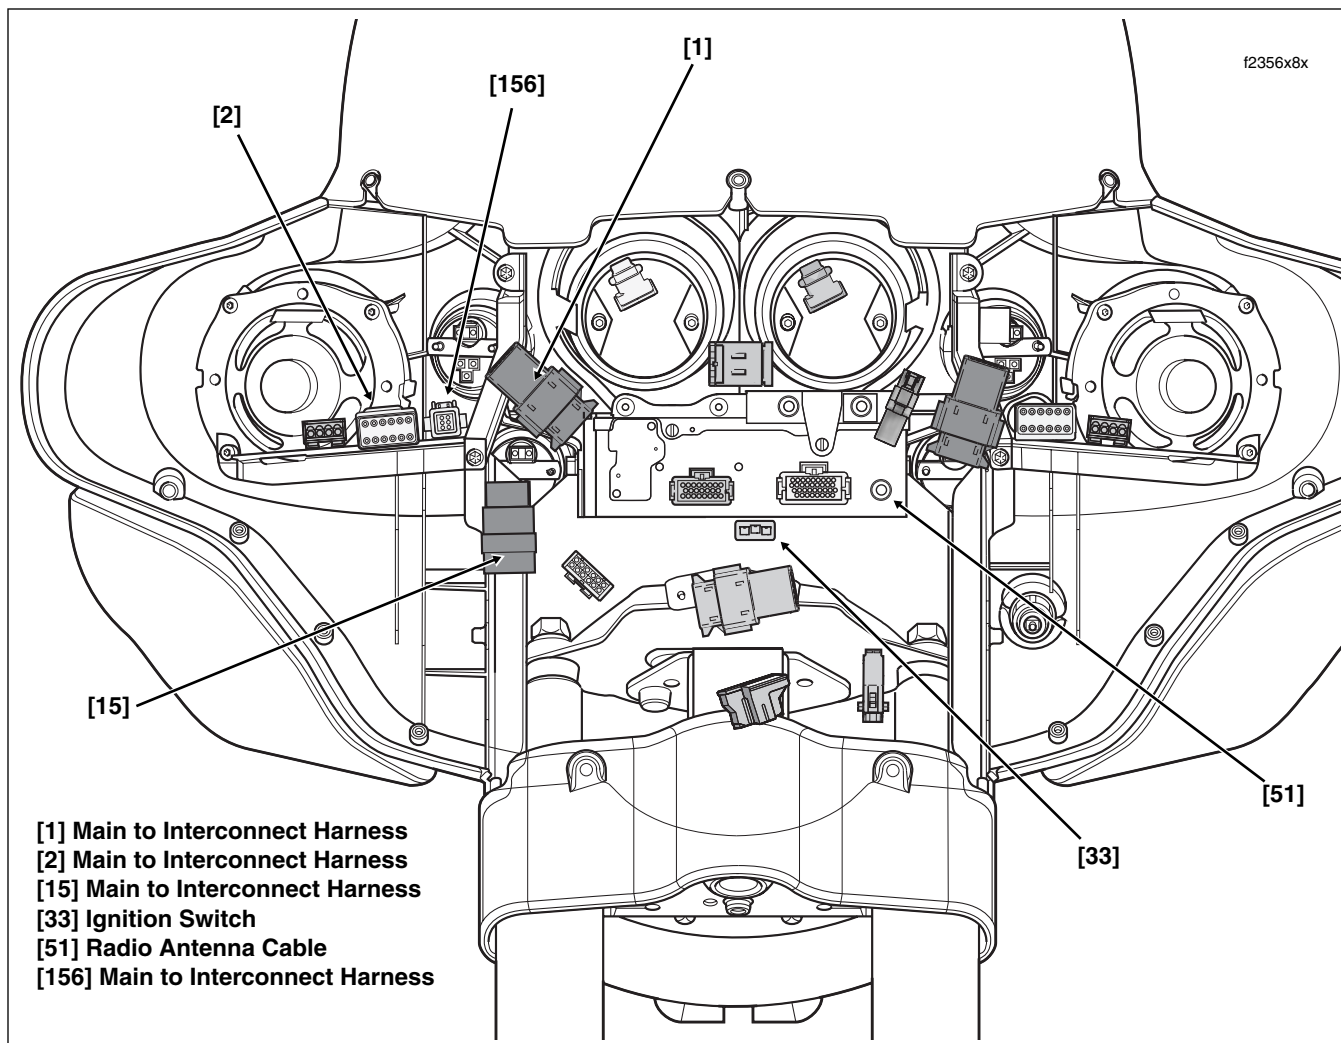

Figure 8-158. Inner Fairing - Main Harness Connectors (FLHX, FLHTC/U)
3. See Figure 8-158. Disconnect main harness from interconnect harness as follows:
4. See Figure 8-158. Disconnect radio antenna cable. Proceed as follows:
5. See Figure 8-158. Disconnect ignition/light key switch connector [33], 3-place Packard, at front of ignition switch housing. Proceed as follows: